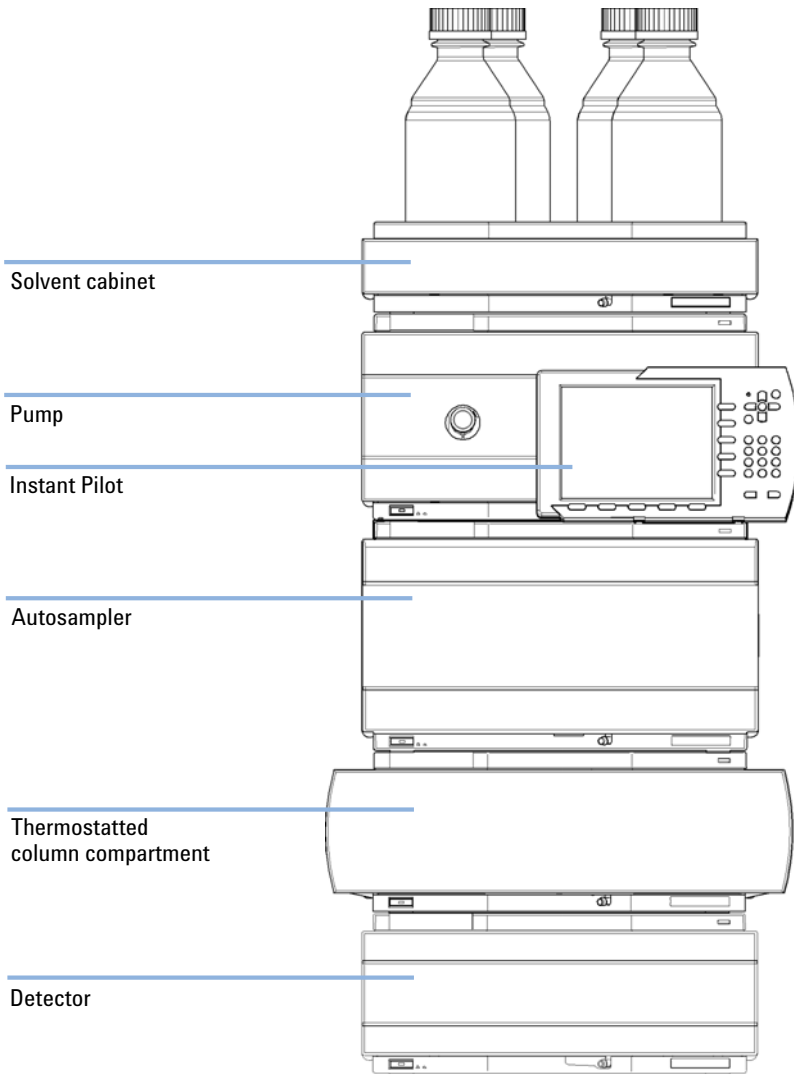
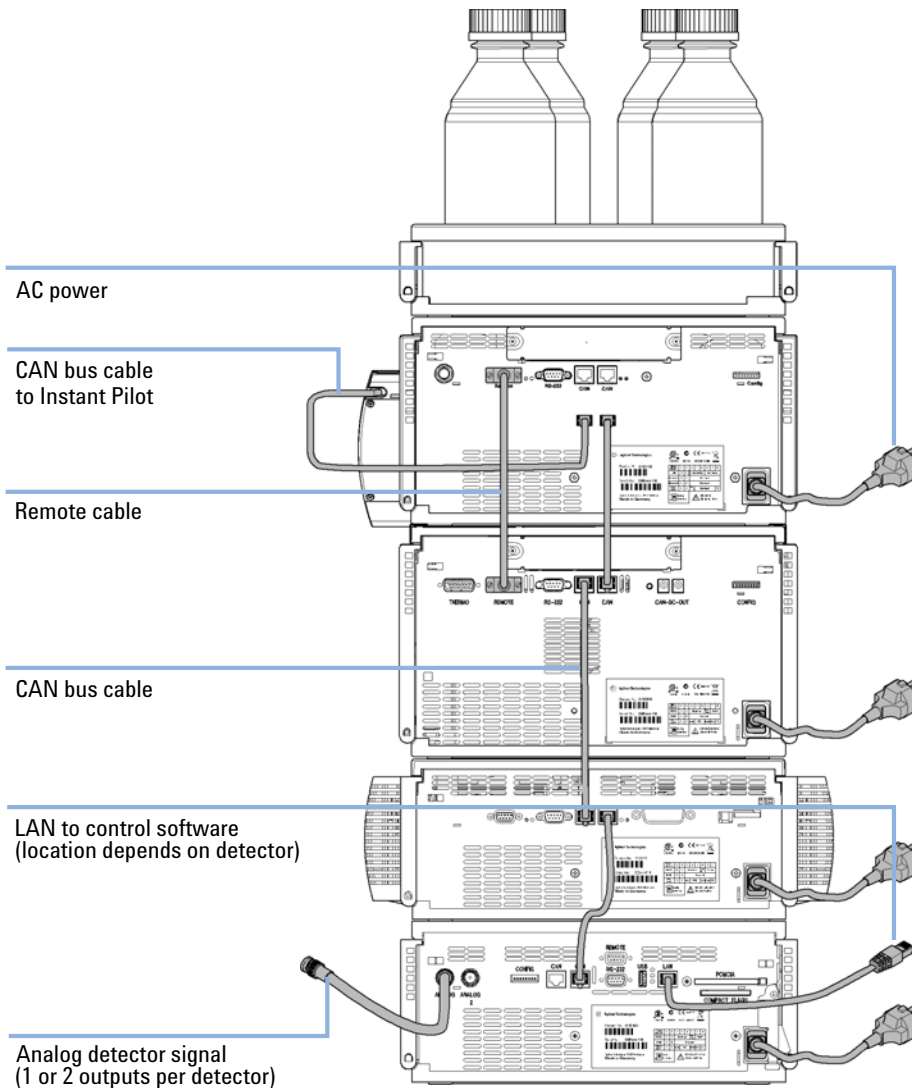

Figure 7 Recommended Stack Configuration for 1260 Infinity (Front View)
Figure 8 Recommended Stack Configuration for 1260 Infinity (Rear View)
Ensure optimum performance by installing the modules of the Agilent 1260 Infinity LC System in the following configuration (see Figure 7 on page 39 and Figure 8 on page 40). This configuration optimizes the flow path for minimum delay volume and minimizes the bench space required.
- 1 Place the individual modules in a stack configuration as shown in Figure 7 on page 39.
- 4 Connect the CAN cable to the CAN connector of the next module, see Figure 8 on page 40.
- 1 Place the vacuum degasser in the stack of modules as shown in Figure 7 on page 39.
- 5 Connect the APG cable to the APG remote connector of the pump, see Figure 8 on page 40.